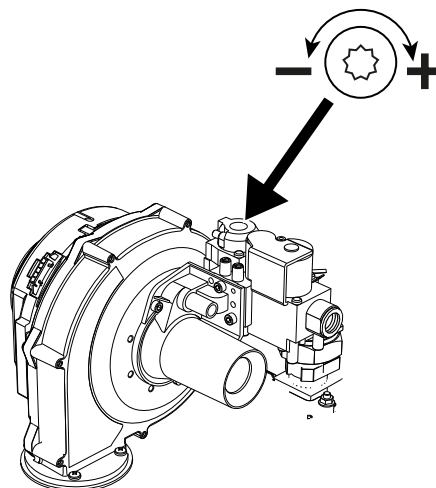

fig. 96- OFFSET minimum capacity adjustment screw
- If the values do not correspond to those indicated, adjust the CO₂ with the OFFSET adjustment screw (see fig. 96), bringing them back to those indicated.